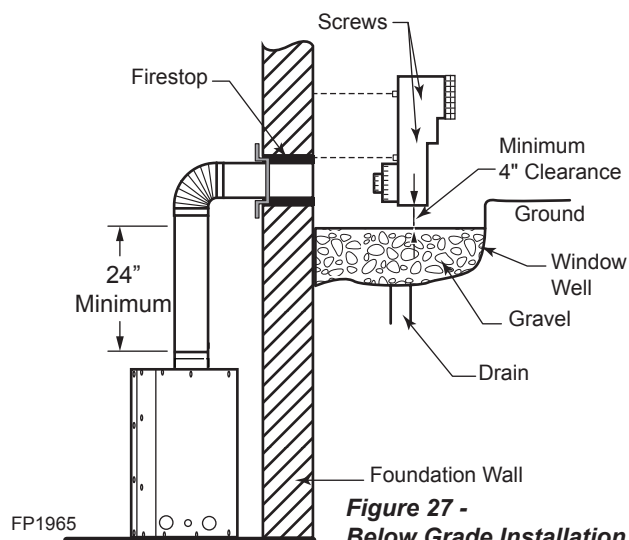

Figure 27 -
2. Remove soil to a depth of approximately 16" below base of snorkel. Install drain pipe. Install window well (not supplied). Refill hole with 12" of coarse gravel leaving a clearance of approximately 4" below snorkel. *Figure 27*.
7. Level the soil so as to maintain a 4" clearance below snorkel. *Figure 27*